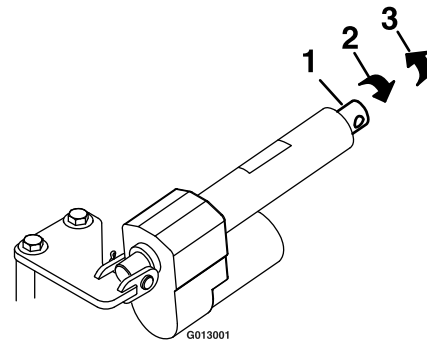

Figure 10
8. If the actuator hole does not align with the actuator-side-plate hole, turn the end of the actuator clockwise or counterclockwise until it aligns as shown in Figure 10.